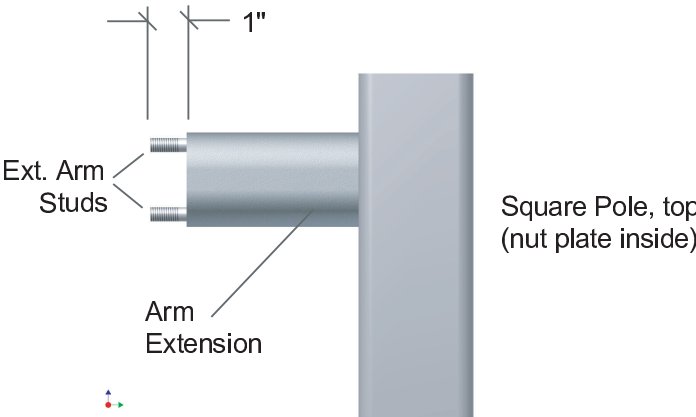

FIGURE 5
C. USING EXTENSION ARM ON SQUARE POLE - FIGURE 5
3. With nut plate inside pole, thread extension arm studs thru top and bottom extension arm holes, then thru top and bottom pole holes, then into nut plate. See Figure 5.